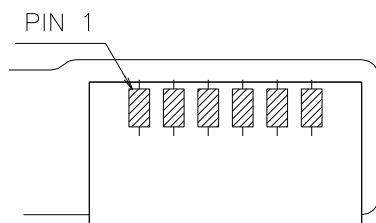

Figure1. Top View of LED Bar Connector
2. Contrast measurements shall be made at viewing angle of $\theta = 0^\circ$ and at the center of the LCD surface. Luminance shall be measured with all pixels in the view field set first to white, then to the dark (black) state. (See FIGURE 1 shown in Appendix) Luminance Contrast Ratio (CR) is defined mathematically.